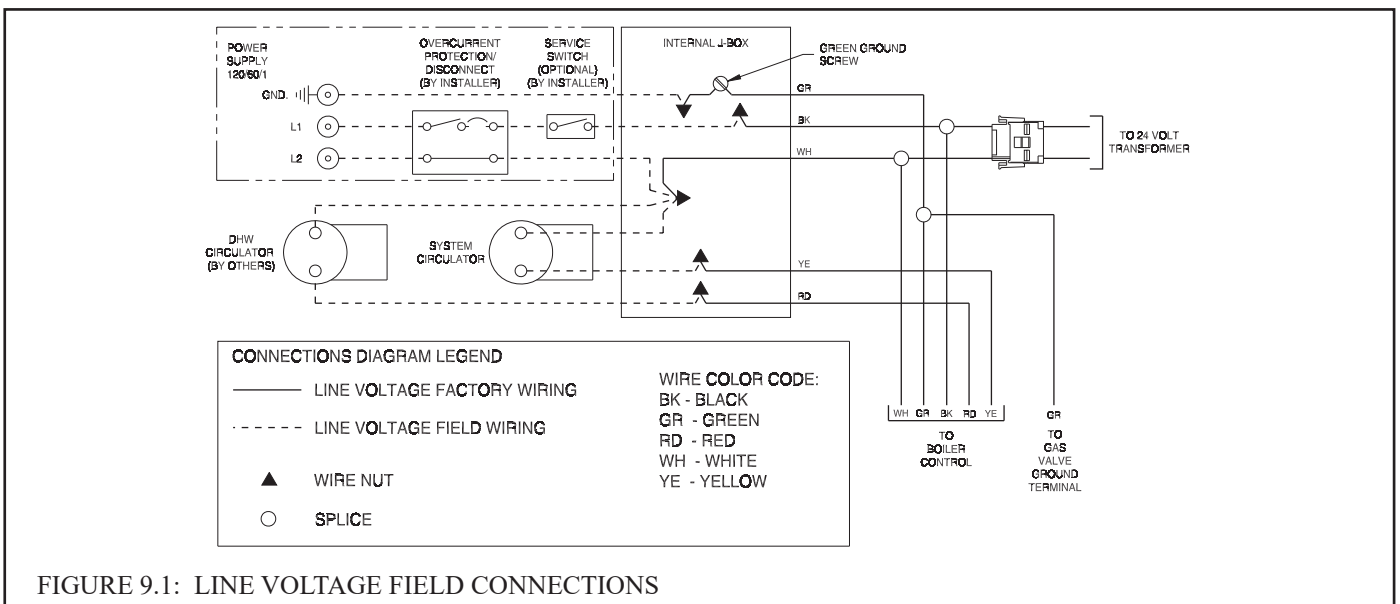

FIGURE 9.1: LINE VOLTAGE FIELD CONNECTIONS
- 1) Line Voltage (120 VAC) Field Connections – See Figure 9.1 for line voltage connections. Provide a dedicated circuit for the boiler of 15A or greater. A service switch is recommended and is required by many local codes. Locate this switch in accordance with local codes or, in the absence of any, in a location where it can be safely accessed in an emergency involving the boiler. All 120VAC connections to the boiler itself are made inside the junction box on the right side of the boiler (accessible through the cover plate on the right side jacket panel). 120VAC connections are:
- a) Heating Circulator - Pumps water upon a call for heat (CH) from a heating thermostat connected to the leads shown in Figure 9.1 or from an EnviraCom thermostat.